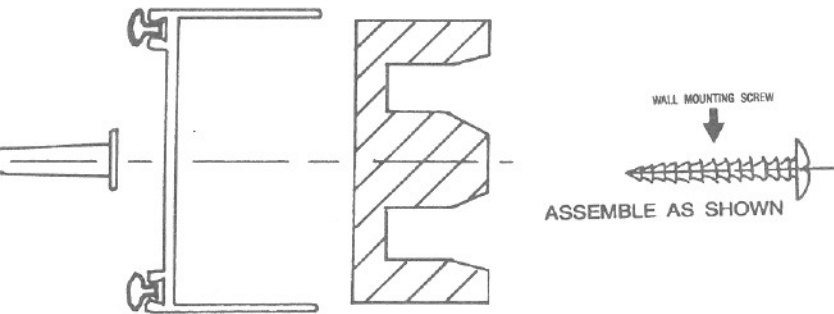

FIGURE 5
5. **INSTALLATION OF WALL JAMBS:** Install one wall jamb at a time, making sure to lock over bottom track without moving it. Line up wall jamb with pre-drilled mounting holes. One E-shaped rubber bumper is supplied for each mounting hole. Fix the bumper in position before screwing the jamb to the wall with #8 x 1-1/4" installation screws through the bumper. SEE FIGURE 5. (Do not overtighten)